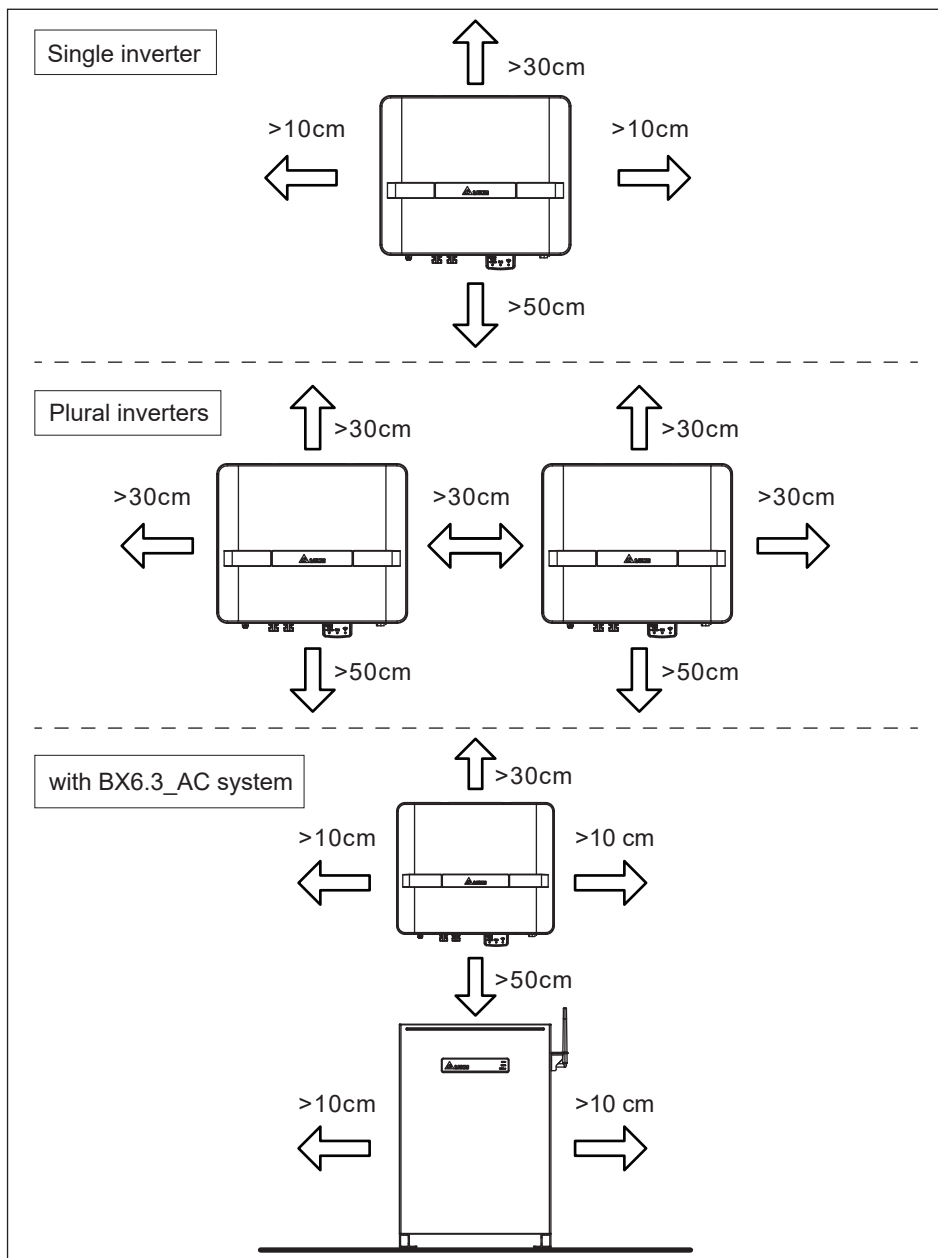

Figure 4-3 : Adequate installation gap
- Please leave an appropriate gap in between units when installing multiple solar inverter systems (refer to **Figure 4-3**).
It is essential to ensure sufficient space for product operation as shown in **Figure 4-3**.